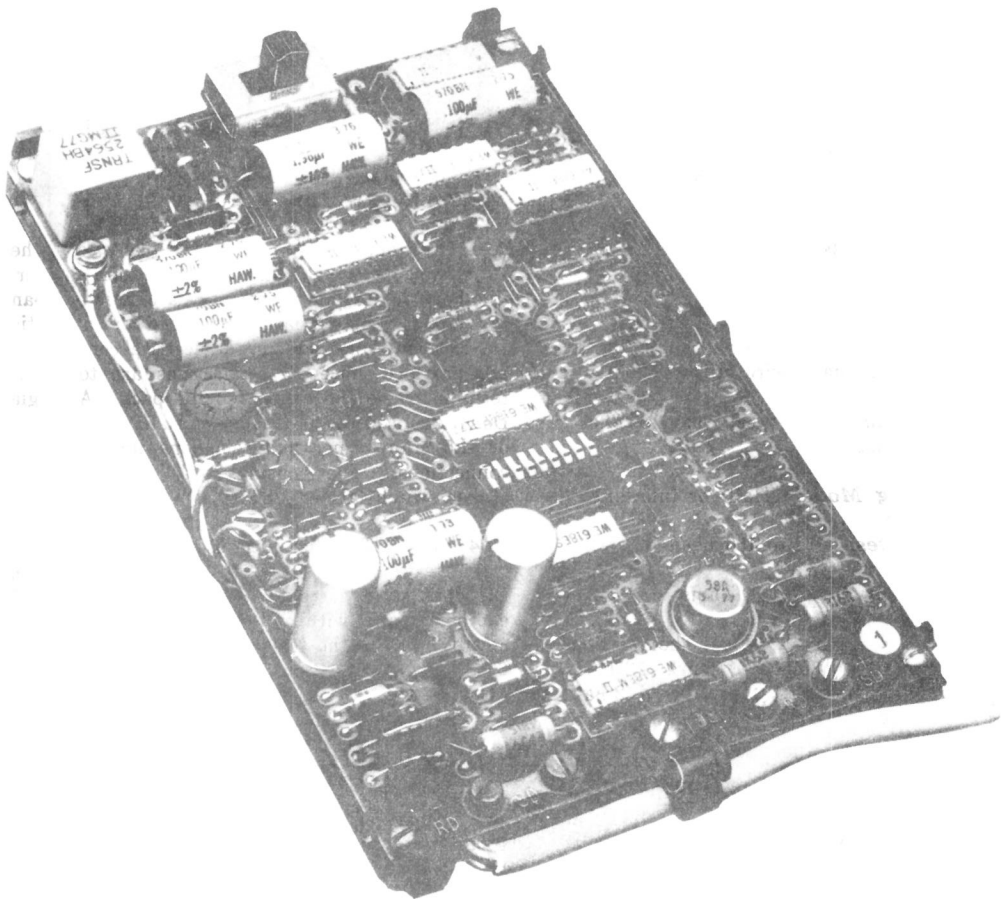
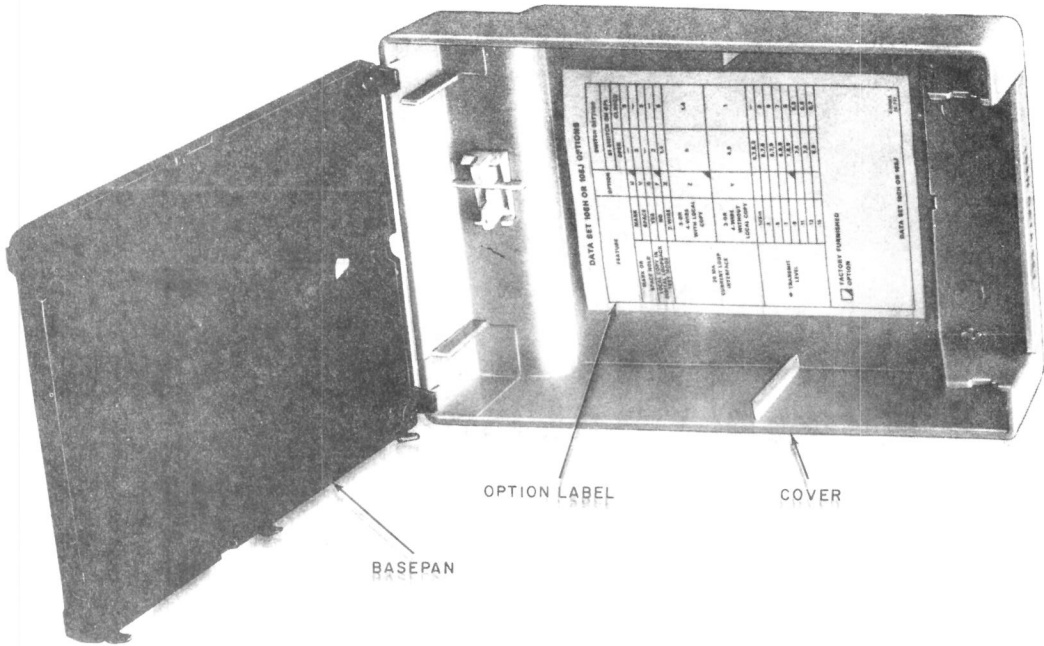

Fig. 2—Circuit Pack of DS 108H (Similar to DS 108J Circuit Pack)
Fig. 3—DS 108H or J Housing
2.01 The DS 108H and J consist of a single circuit pack (Fig. 2), a plastic housing (Fig. 3), and a KS-21239-L4 or -L5 transformer (Fig. 4).